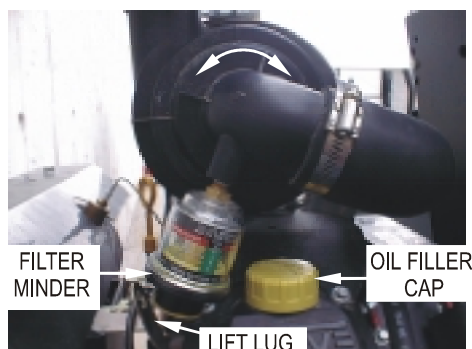

FIG. 3
- f) Rotate the air intake elbow as needed to create enough clearance between the filter minder and the oil filler cap to remove and replace the oil filler cap easily. See Figure 3.